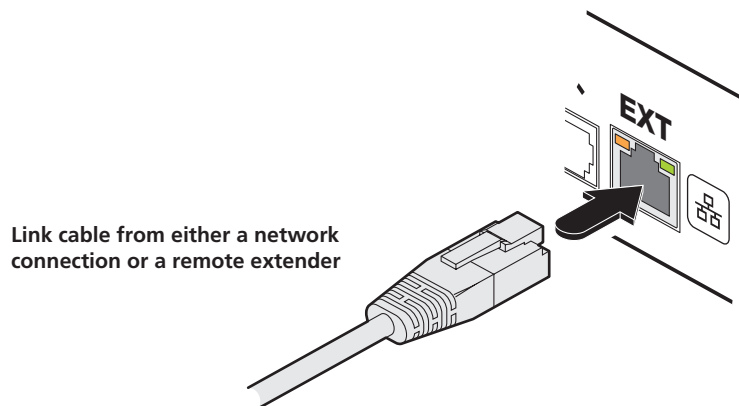

Figure 3-2. Connect a CAT 5, 5e or 6 link cable to the EXT port.
- 2 Connect a CAT 5, 5e or 6 link cable to the port labeled EXT. See Figure 3-2.